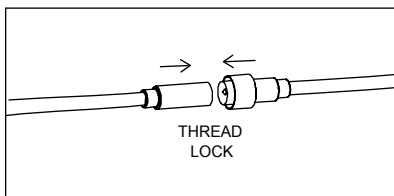

Figure 3
3. Connect the remote driver box to the light fixture and tighten the nut connector by hand. Arrow on the male and female parts of the connector between the driver and fixture cable should match. (Figure 3)